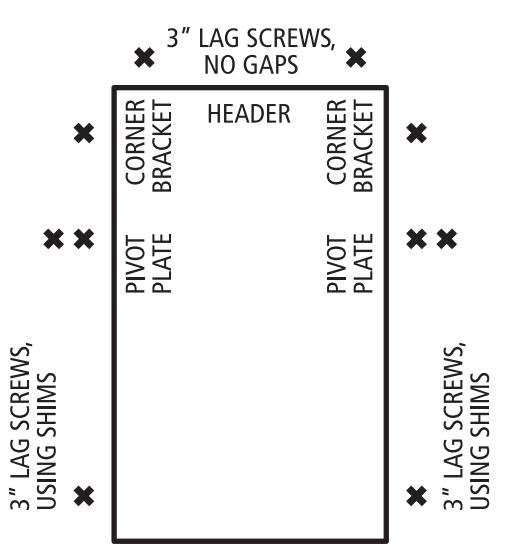
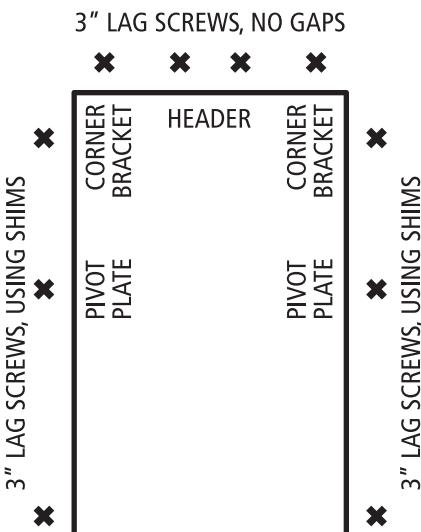

FIGURE 8: Wood series
FIGURE 9: Aluminum series
A. The ladder comes with pre-drilled holes for permanent installation at locations shown in Figure 8 for wood models and Figure 9 for aluminum models. Shim, when necessary to fill space between ladder frame and rough opening, at pre-drilled locations. Using $\frac{1}{8}$ " drill bit, drill pilot holes through shim into ceiling joists and header.